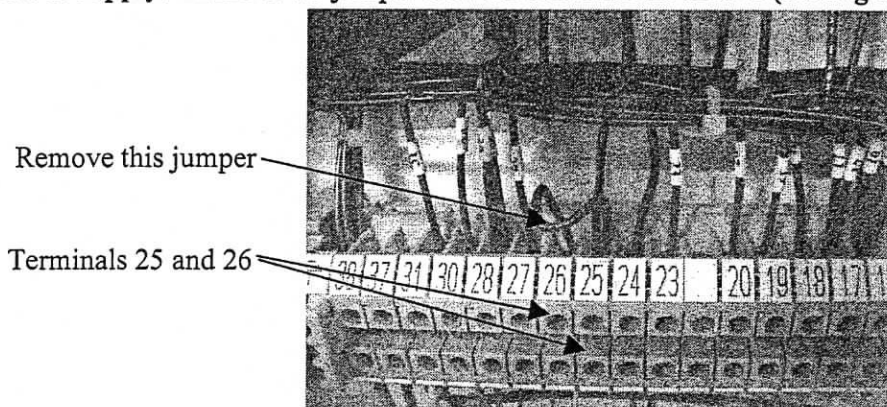

Figure 7
14. A qualified electrician must install the interlock switch into the KR535 electrical control box. **Disconnect the power supply.** Remove the jumper between terminals 25 and 26 (see Figure 7).